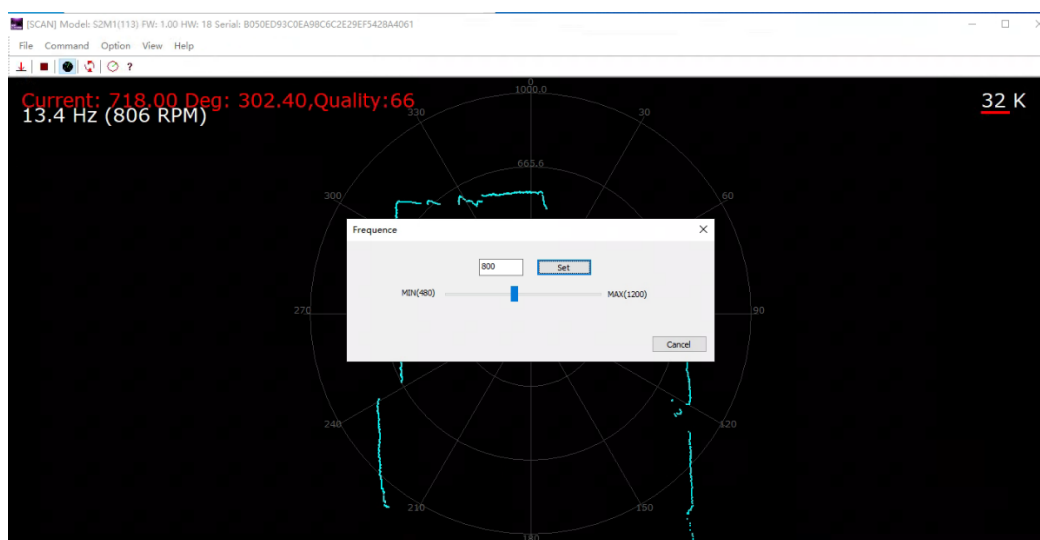

Figure 3-7 Lidar Speed Regulation
7) Click Command >IP Config to configure the IP address. As Figure 3-7 shows resetting the device after the configuration is complete. For SDK, see setLidarIpConf and reset.